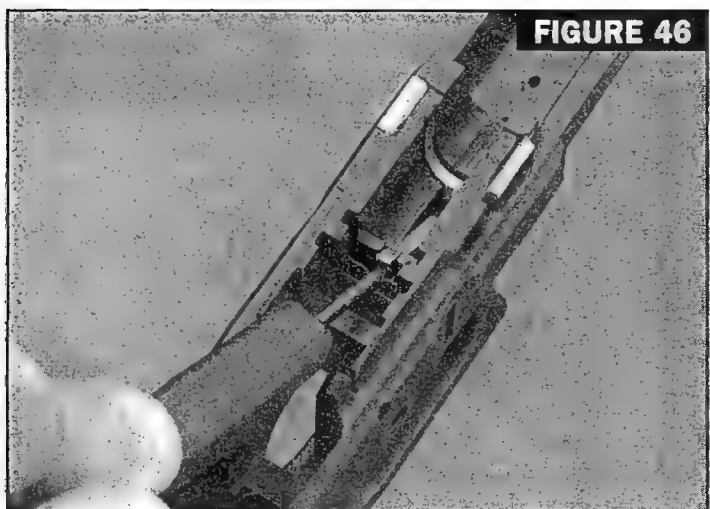

FIGURE 46
- Remove the slide lock spring by raising it from the receiver with a pair of needle nose pliers or pin punch of 1/16" diameter or less as shown (in Fig. 46) or with the magazine catch spring (for using the magazine catch spring please follow instructions for magazine catch spring removal on page 31).